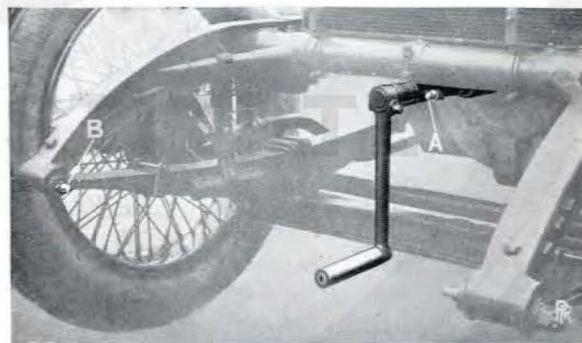

FIG. 40.
8. Starting Handle. Gear oil should be forced into lubricator A, Fig. 40, by means of the oil gun, and the lubricator cap replaced.